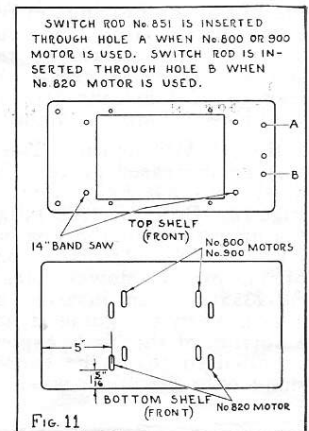

Fig. 11
**Fitting on Stand.** No. 891 Steel Stand for the 890 Band Saw is slotted for both 1/3 and 1/2 H.P. motors with standard bases. See Fig. 11 for the proper holes and slots to use when setting up the band saw. When the switch rod (No. 851) is used, the rubber bushing is removed from the clamp and inserted in the right hand hole in the front of the stand top shelf, and the switch rod is inserted through the hole as shown in Fig. 11.